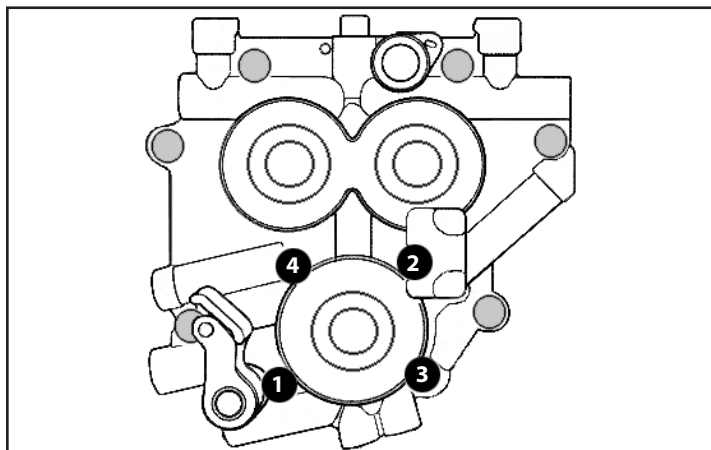

Figure 1
9. Gradually loosen and remove four oil pump bolts according to sequence shown in **Figure 1, next page.**
- d. Tighten bolts to 90-120 in-lbs. in sequence illustrated in **Figure 1 on page 5.**